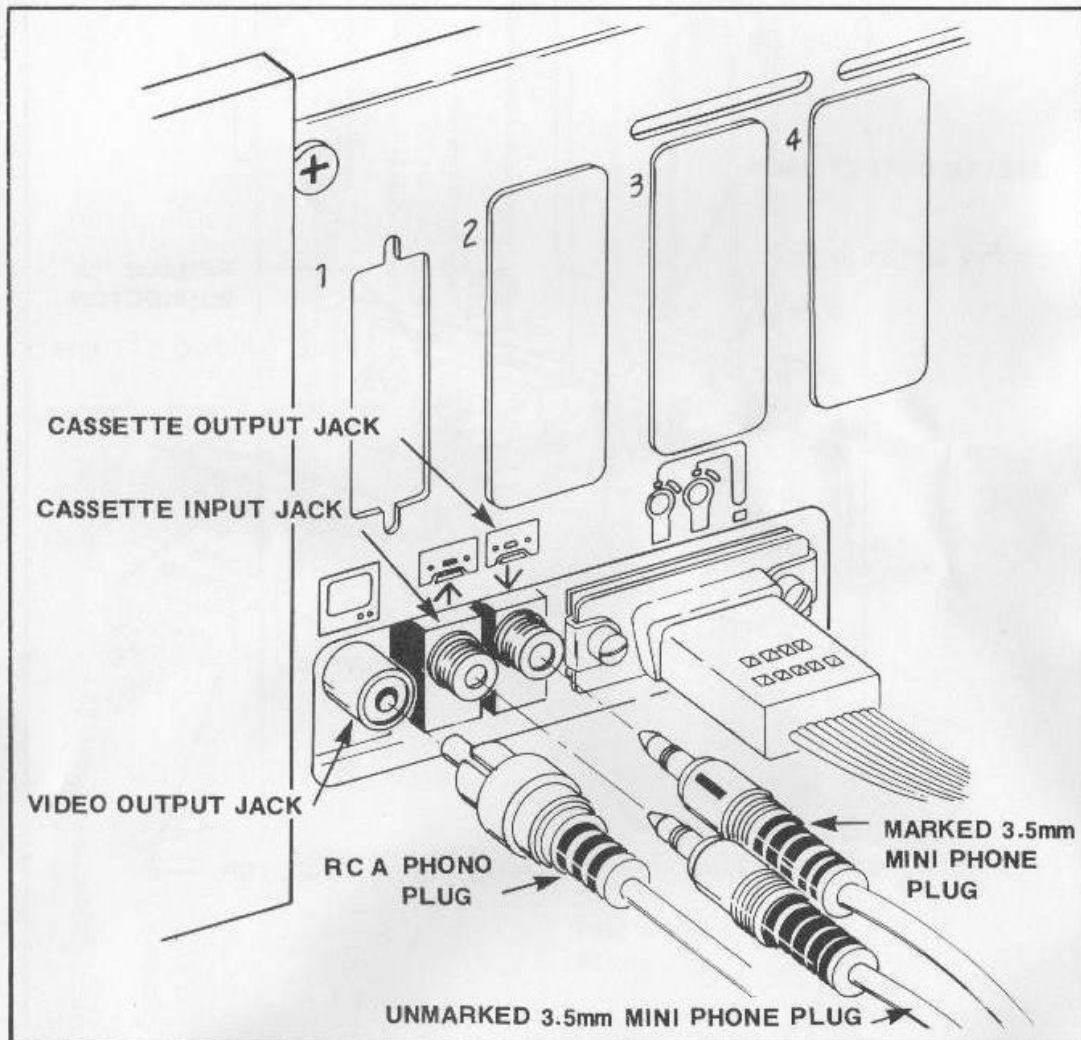

FIGURE 6
- (4) Locate the RCA phono plug. Insert it into the video output jack. Be sure that the plug is fully seated (Figure 6).
- (5) Locate the *unmarked* 3.5mm "mini phone" plug. Insert this plug into the cassette input jack, next to the video output jack. Again, be sure the plug fits firmly into the jack and is fully seated (Figure 6).
- (6) Locate the 3.5mm plug which has a *black stripe*. Insert this plug into the cassette output jack. Be sure that this plug is also firmly seated in the jack (Figure 6).